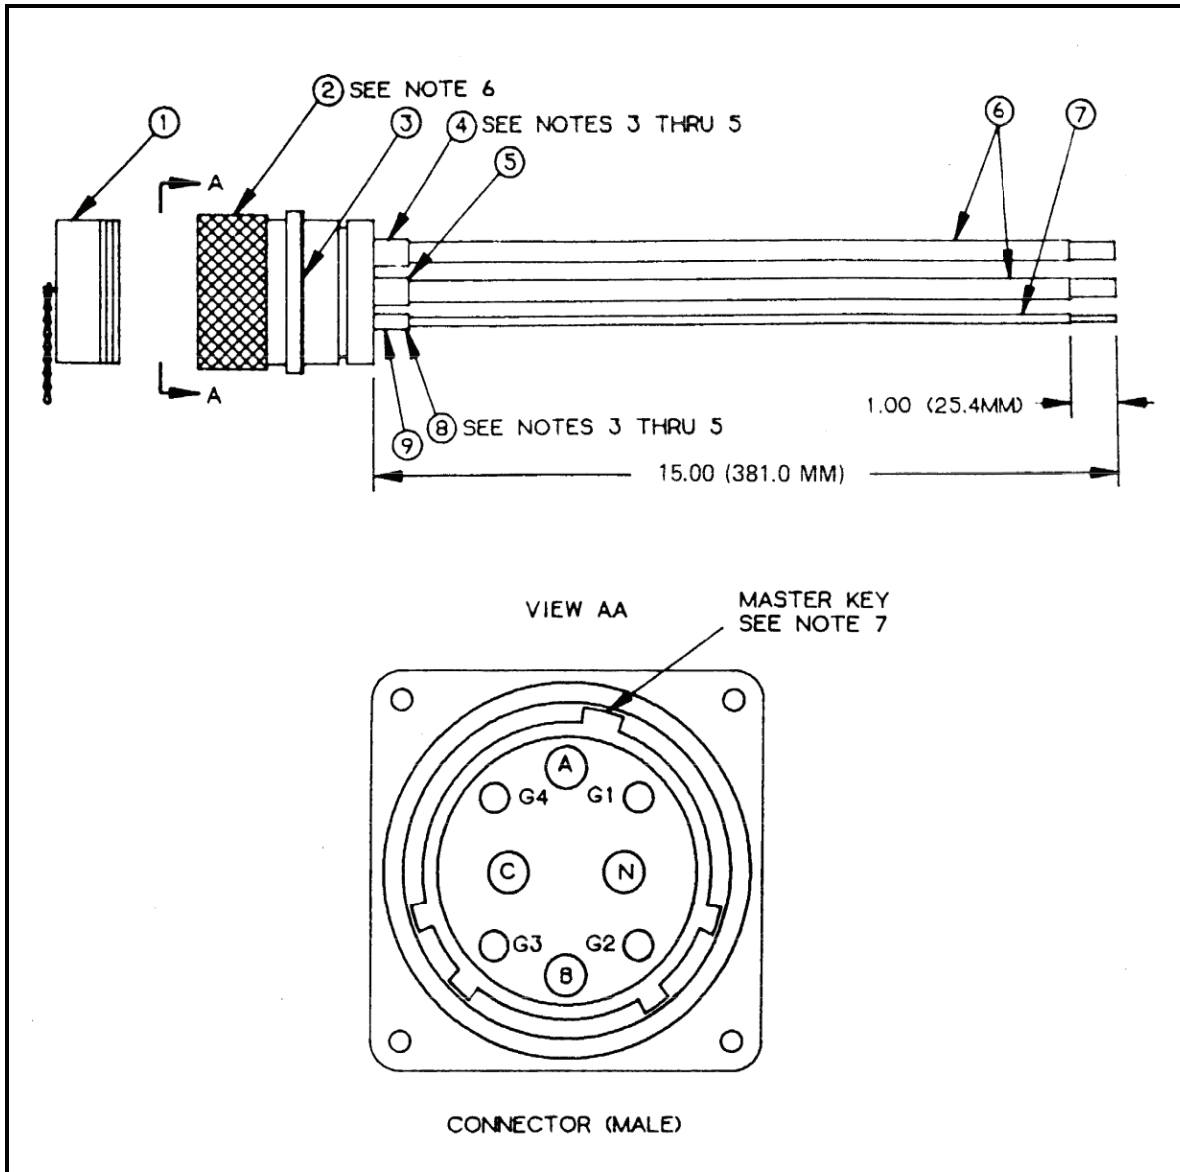

Figure F-27. M100 A/P (PDISE), 100-Amp, Input Connector, (P1)
F-27 M100 A/P (PDISE), 100-Amp, Input Connector, (P1)**Component Legend for Figure F-27**
- c. Electrical connector (Figure F-27, Item 2) is furnished with the following: